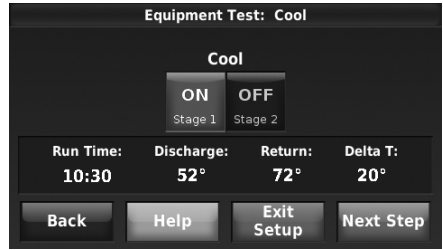

Fig. 17.
2. For each stage you test, wait until Delta T begins to stabilize, then turn on the next stage (if present). See Fig. 17 for an example.
- 4. When setting the run time, select a setting based on when Delta T began to stabilize during the equipment test. In the example shown in Fig. 17 and 19, Delta T began to stabilize in about 10-11 minutes.